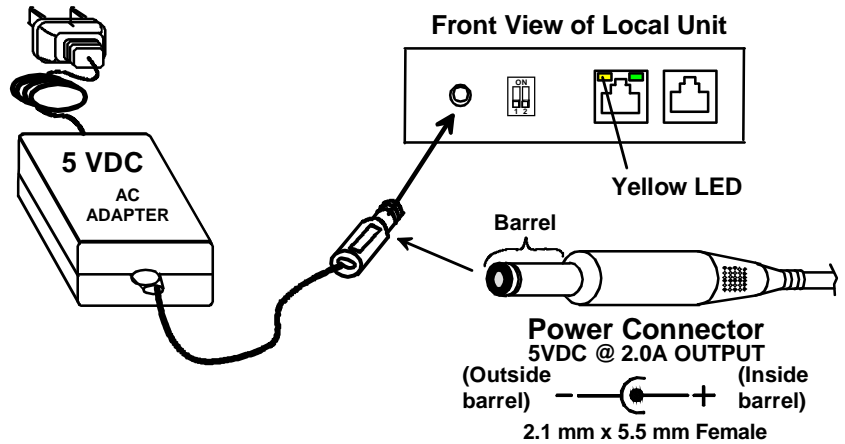

Figure 5- Connect the AC adapter to the Local Unit
2. Connect the AC adapter power connector to the 5VDC port on the Local Unit. Plug the AC adapter into a power outlet. The green Power LED on the RJ45 connector of both the Remote and Local Units should illuminate, indicating that a proper power connection has been made to them. (See Fig. 5.)
**Note: The yellow LED on each RJ45 connector will illuminate when input video is available and starts blinking when the video is synchronized. (See Fig. 5)**